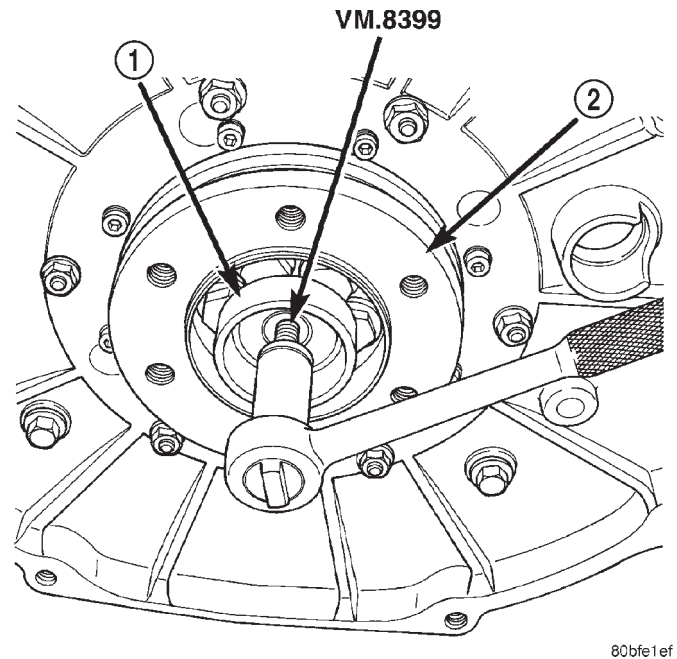

Fig. 107 Transmission Pilot Bushing Removal
- (2) Tighten special tool VM-8399 to remove the transmission pilot bushing (Fig. 107).